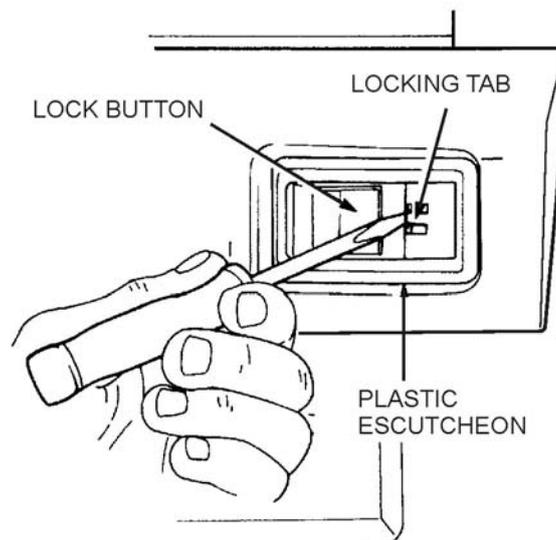

Figure 14 Door Lock Button Escutcheon Removal
g. Remove the plastic escutcheon from the lock button by depressing the locking tab with a small screwdriver (refer Figure 14).
- h. Remove the screws securing the interior lock handle escutcheon (refer Figure 14).